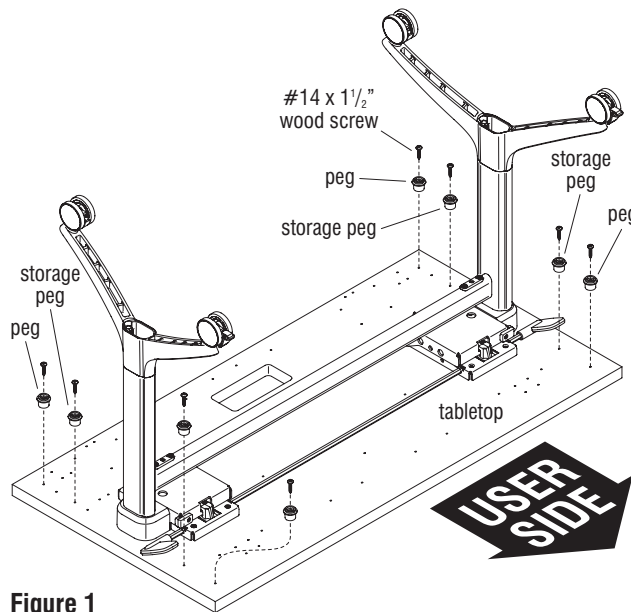

Figure 1
1. Locate the four pre-drilled peg mounting locations, at each corner of each tabletop. Install a peg to each location using a #14 x 1/2" wood screw at each peg mounting location, taking into account if the table being assembled will have a modesty panel (Figure 1 & Details A & B).
2. Locate the four pre-drilled storage peg mounting locations, at each corner of each tabletop or the four mounting holes at the front, user side of the tabletop. Install a peg to each location using a #14 x 1/2" wood screw at each peg mounting location (Figures 1 & 2 & Details A, B & C).